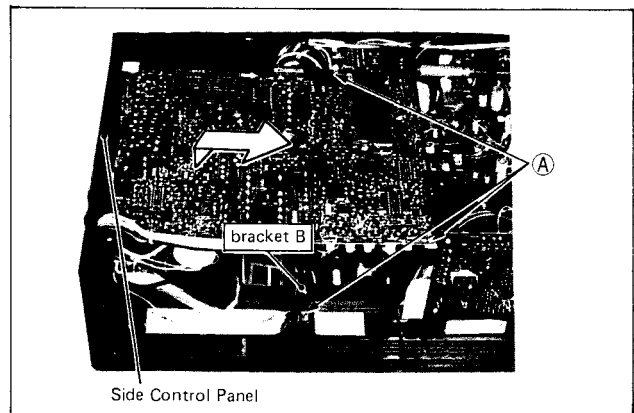
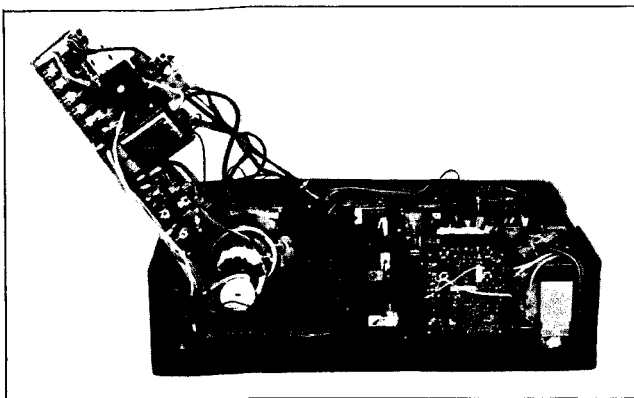

Fig. 2
Fig. 3
Unfasten the three screws marked (A) in Fig. 2 to remove bracket (B). After lifting and pulling both the color TV P.C. board and the side control panel, turn the unit upside down as shown in Fig. 3. Both alignment and repair of the color TV unit can be conducted without requiring further disassembling.